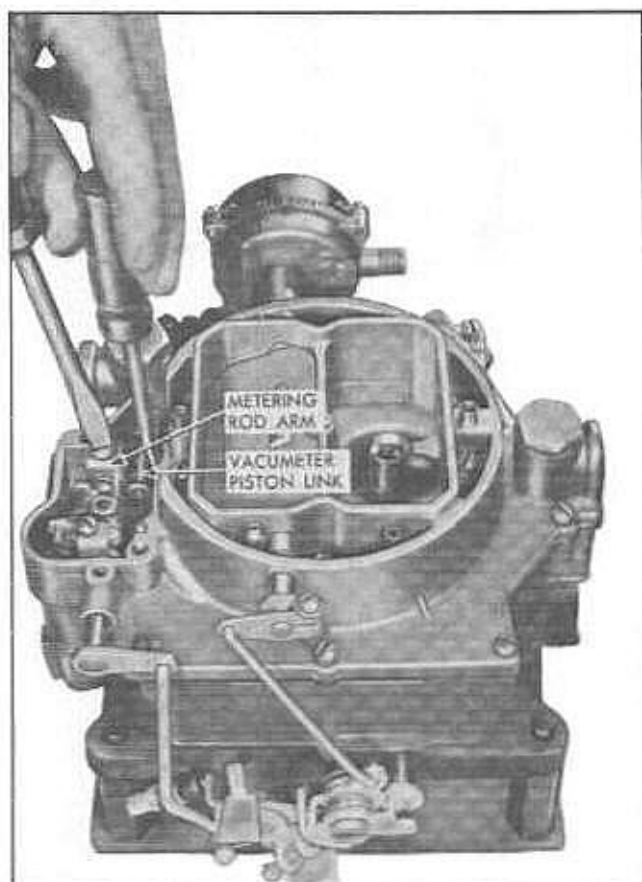

Fig. 6B-31 Metering Rod Arm Adjustment
3. Place .020" wire gauge (J-1388) on boss, rotate choke lever on shaft until tang on fast idle cam contacts wire gauge and all slack in linkage is removed (Fig. 6B-32). While holding in this position, tighten choke lever clamp screw.